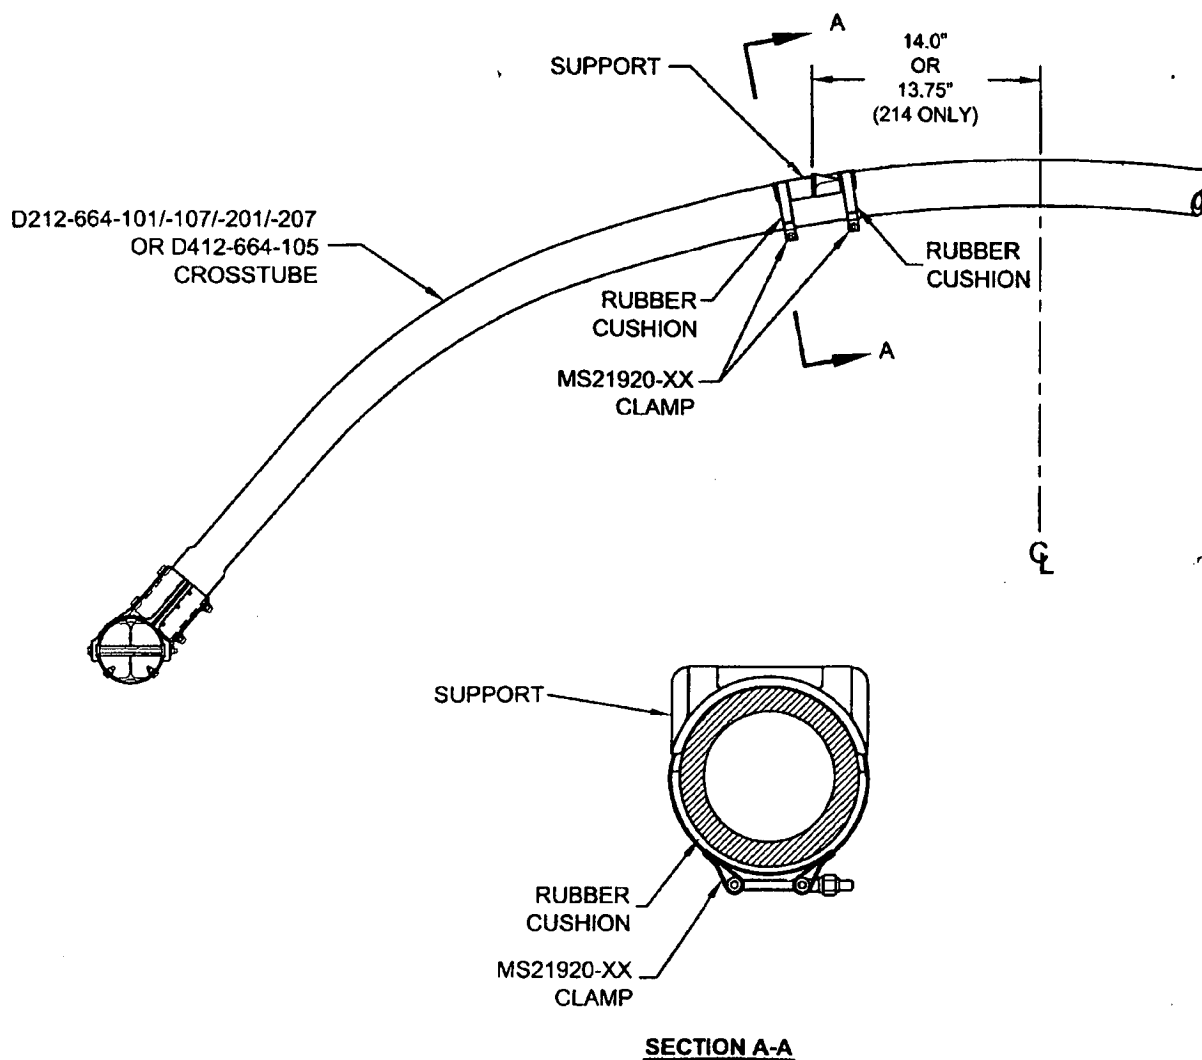

FIGURE 1: SUPPORT INSTALLATION
For the crosstubes listed above, section 32.4 of ICA-D212-664 is amended as follows. Use Figure 1 of this service instruction and Figures 32-2 to 32-9 of ICA-D212-664 for further reference. For crosstubes of an earlier change number, it is recommended that if the supports are removed, the supports should be reinstalled using the procedure listed below.
- 32.4.1 Locate the area on the crosstube for installation of support (see Figure 1 of this service instruction). For D212-664-101/-107/-201/-207 and D412-664-105 crosstubes, the outward face of the support tabs should be 14.0" (355mm) from the crosstube center for 204/205/210/412/UH-1 aircraft. For installation on 214B/B-1 aircraft, the outward face of the support tabs should be 13.75" (349mm). Ensure paint finish of crosstube is intact; touch up as required per Chapter 5 (5.3.9) of ICA-D212-664.
- 32.4.5 Apply a 0.04" to 0.07" thick layer of Proseal 890 Class B or AMS-S-8802 Class B sealant underneath applicable support and install support as shown in Figure 1 of this service instruction.
- 32.4.6 Install the clamps opposite to crosstube support as shown in section A-A of Figure 1. Install rubber cushions underneath each clamp around the bottom circumference of the crosstube up to the crosstube centerline. Torque clamps 80-100 in-lb (9.0-11.3 Nm). It is acceptable to use smaller or larger sized MS21920-XX clamps than those listed in ICA-D212-664, ensure that after torquing the clamps per this instruction, the nuts are in safety but not bottomed out